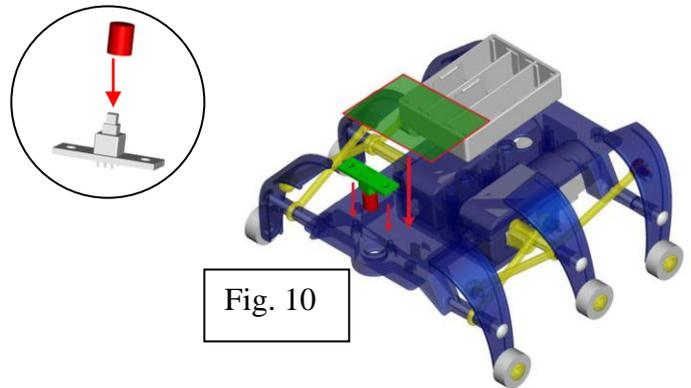

Fig. 10
9. Cover the switch (7) with the cap (5). Install the battery box (14), the switch (7) and the circuit board (6) on the chassis. See Fig 10.